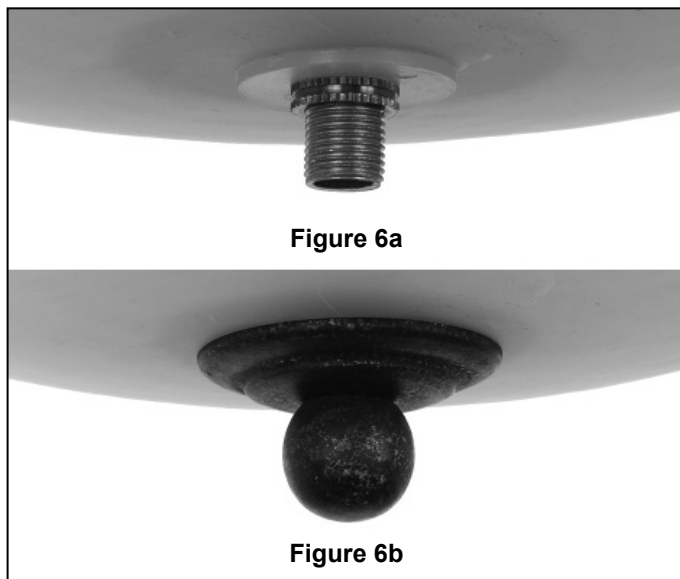

Figure 6a
6. Install the Glass bowl with washer and nipple nut provided. (Figure 6a)